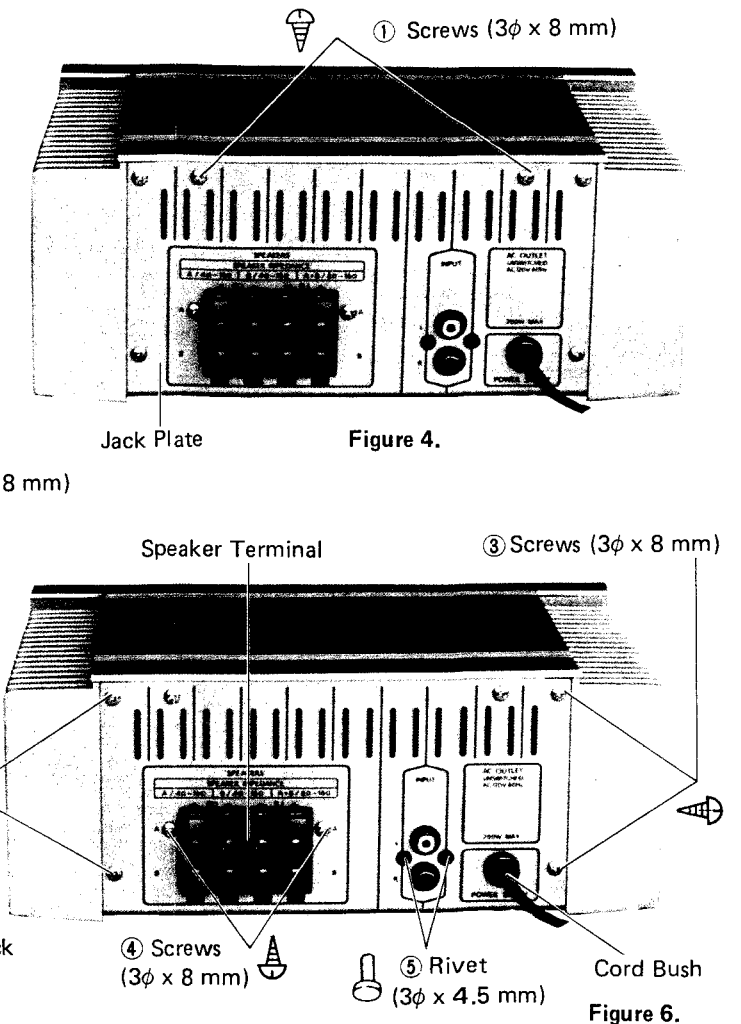

Figure 6.
3. Remove the two plastic rivets ⑤ (3φ x 4.5 mm) holding the 2 pin jack as shown in Figure 6.
4. It is capable of replacing the jack plate to remove the cord bush as shown in Figure 6.